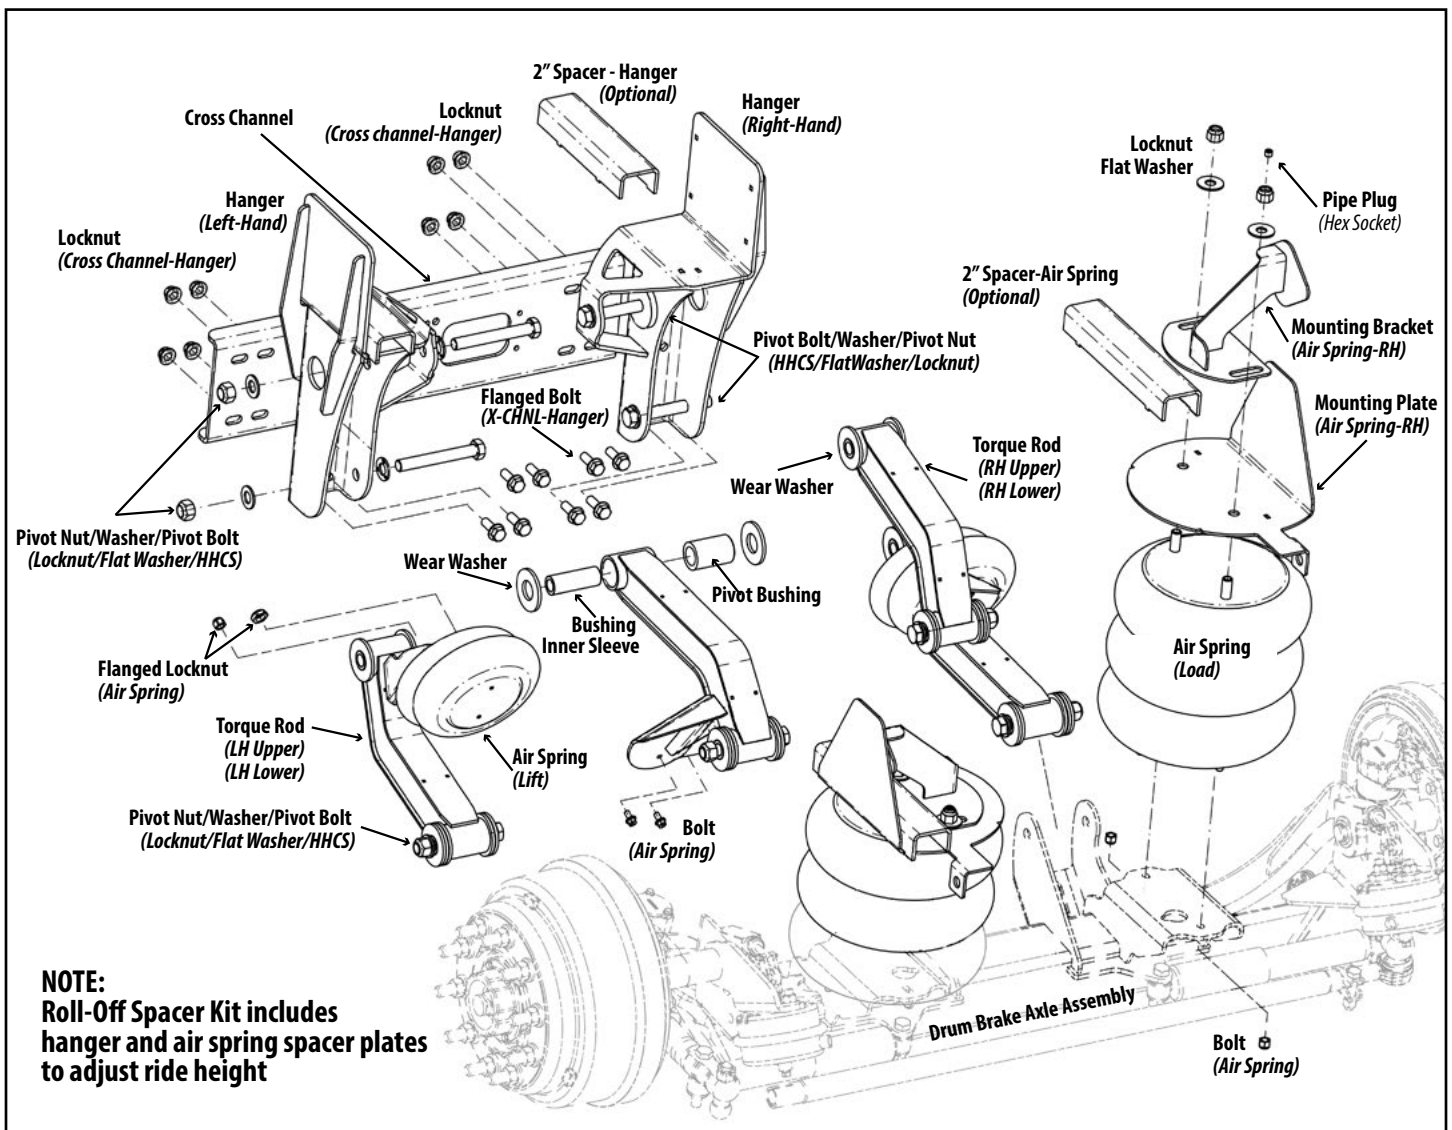

Figure 10.
- Count the number of wear washers on each side of the bushing on the Axle-End Torque Rod Assembly. The wear washer number varies according to the frame width set by the hangers (Figure 10).